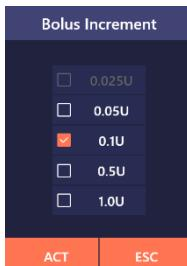

Figure 4.5
**(2)** Click "Bolus Increment" to open the setting interface (as shown in Figure 4.5). Select the appropriate value. Click "ACT" to save and exit, or click "ESC" to exit without saving.